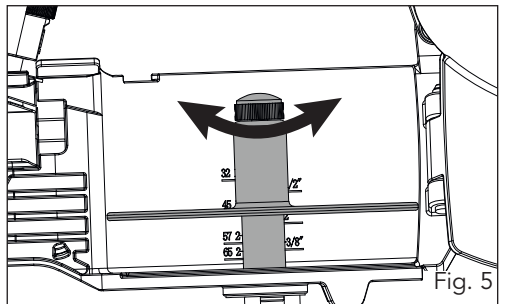

Fig. 5
3. Adjust the spool position for the nail length you are using by lowering or raising the spool (fig. 5).